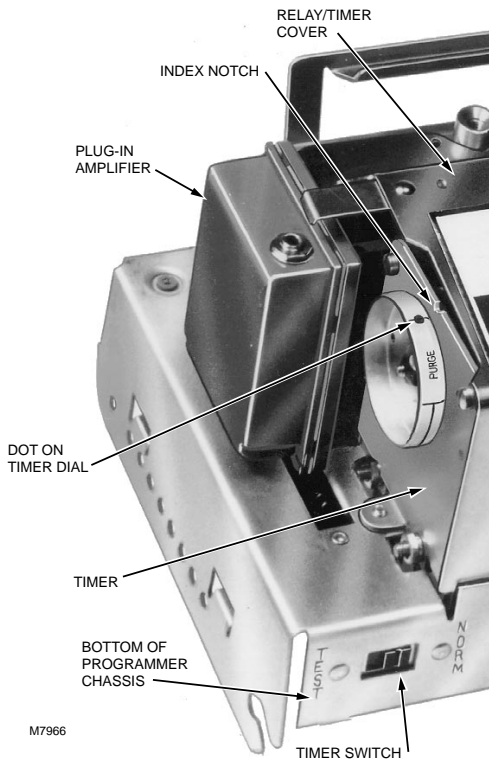

Fig. 9. Location of timer switch and position of timer dial at startup.
10. Timer switch is in NORM position (Fig. 9).